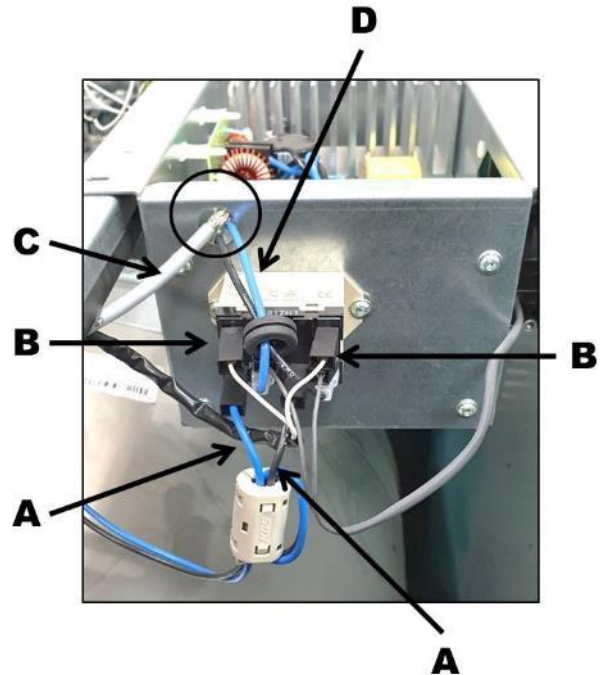
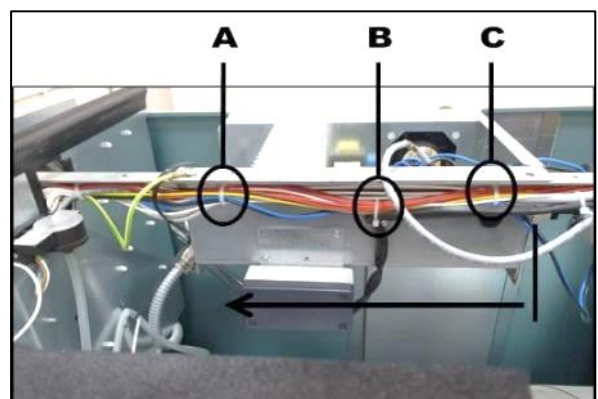

Fig.2.5
Fig.2.7
7. Disconnect the blue and black power cables **A** (Fig.2.5).
8. Disconnect the two white relay activation cables **B** (Fig.2.5).
9. Remove the communication cable **C** (Fig. 2.5) from inside the enclosure through the upper left hole **D** (Fig. 2.5).
14. Remove the cable ties from cables **A**, **B** and **C** (Fig. 2.7).
15. Move the blue and black power supply cables (Fig. 2.5/A), and the white cables (Fig.2.5/ B) from position **C** to position **A** (Fig.2.7) and remove the communication cable.
- 18. Fix the cables with the cable ties, as shown in figure 2.7.